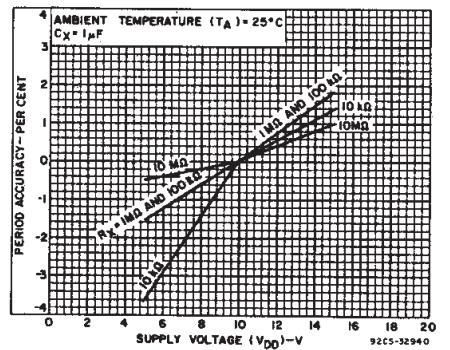

Fig. 11—Typical astable oscillator or Q, Q̄ period accuracy vs. supply voltage.
**B. Variations Due to  $V_{DD}$  and Temperature Changes** — In addition to variations from unit to unit, the astable period varies with  $V_{DD}$  and temperature. Typical variations are presented in graphical form in Figs. 11 to 16 with 10V as reference for voltage variations curves and 25°C as reference for temperature variations curves.